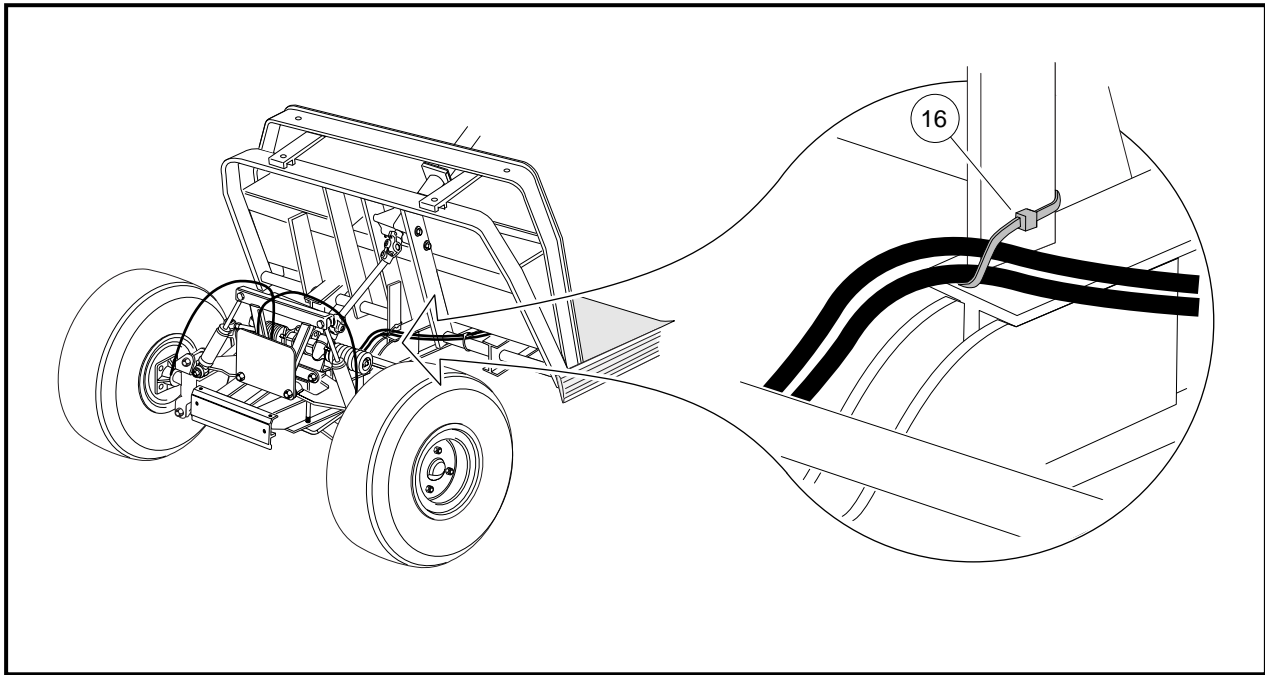

Figure 6-22 Secure Cables to I-beam
12. Install a wire tie (16) to secure the brake cables to the driver side I-beam as shown (**Figure 6-22, Page 6-14**). **See following NOTE.**